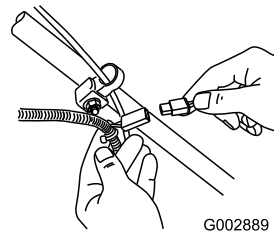

Figure 30
1. Connect the charger to the machine wiring harness located below the electric-start button (Figure 30).